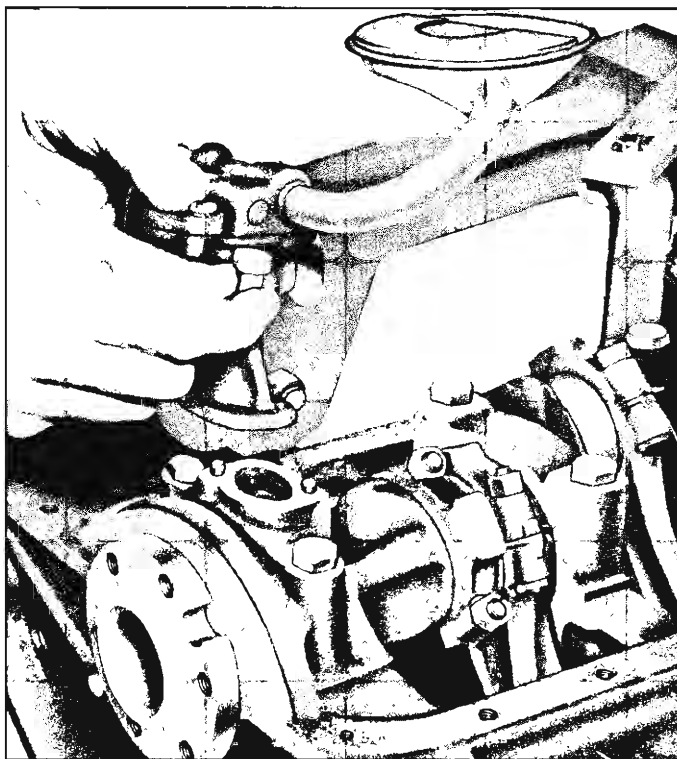

Fig. 85—Oil Pump Removal and Installation
2. Remove pump to rear main bearing cap bolt (fig. 85) and remove pump, extension shaft and collar.